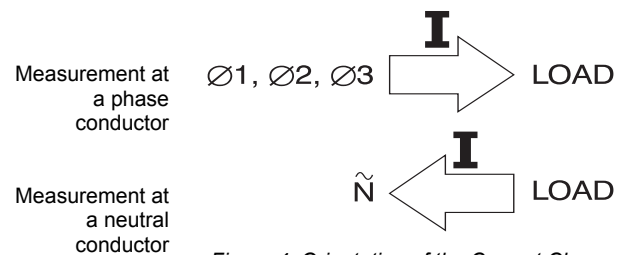

Figure 4. Orientation of the Current Clamp
5. Make sure that the arrow marked on the jaw of the Current Clamp points toward the load for phase measurements (toward the source) for current measurements. (See Figure 4.)